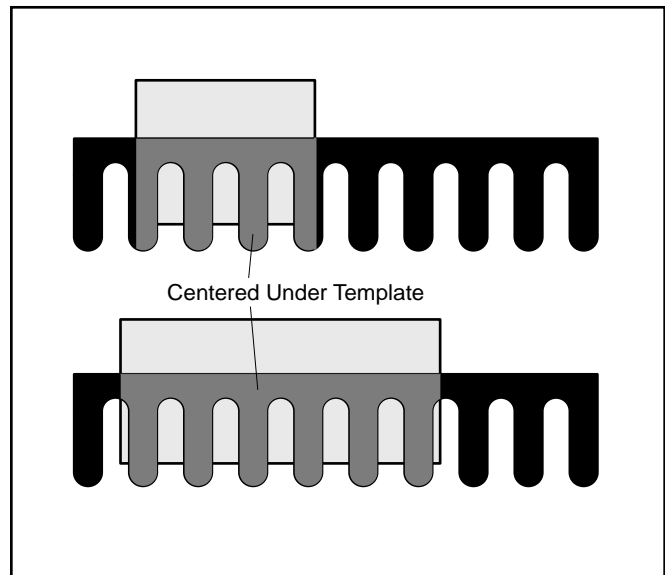

Figure 9. Center drawer piece under the template fingers.
2. Loosen the adjustment screw on the side stop and shift the side stop and the work piece until the wood is centered under the template fingers. See **Figure 9**. Centering ensures that the pins and tails on the ends will be identical to one another. Re-tighten the side stop screws but do not over tighten.